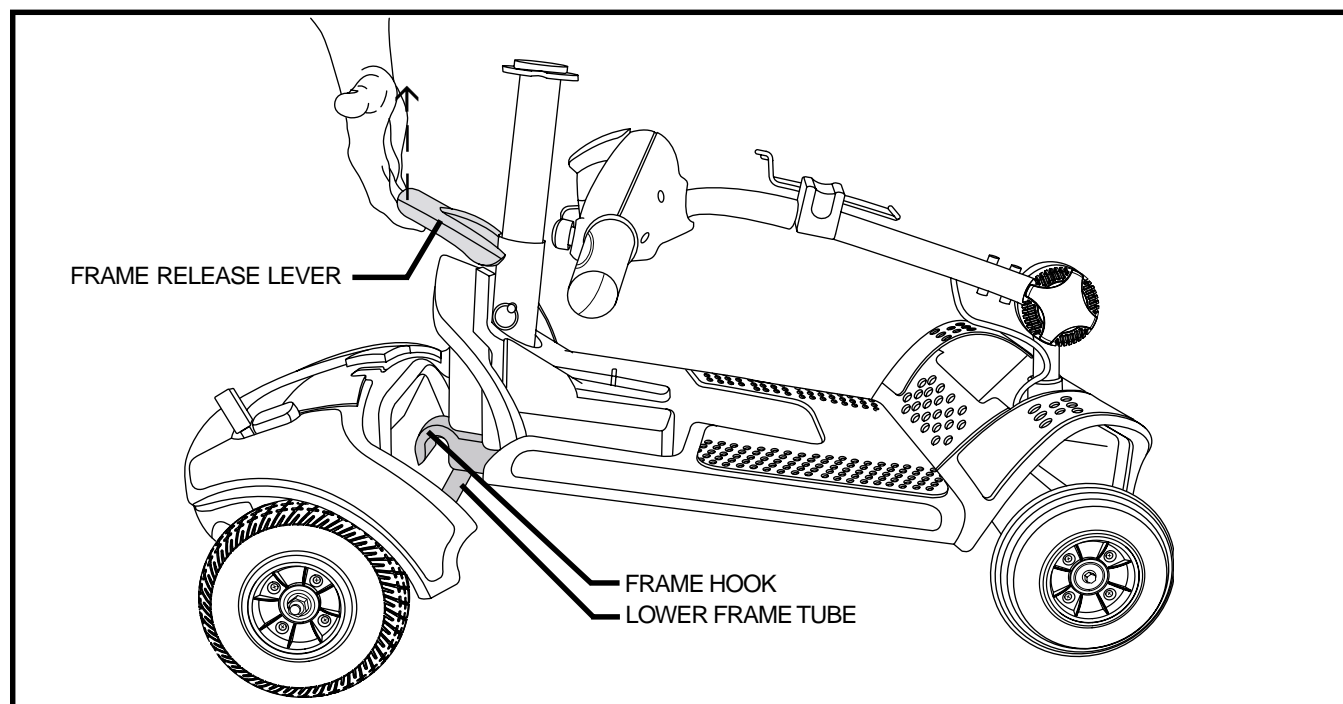

Figure 24. Frame Release Lever
3. Slowly separate the two sections of the Travel Scooter. **See figure 24.**
1. Use the frame release lever to lift the front section as you align the frame hooks of the front section with the lower frame tube of the rear section. **See figure 24.**